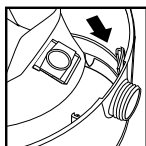

FIGURE 14
24. Slide the inlet deflector with the filter bag attached into the deflector guide. **FIGURE 14.**